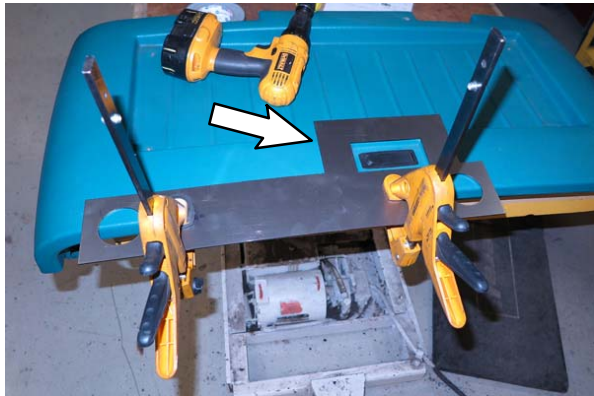

FIG. 2
4. Clamp the template (22) on the cover aligning the latch hole with the recessed surface. (Fig. 2)